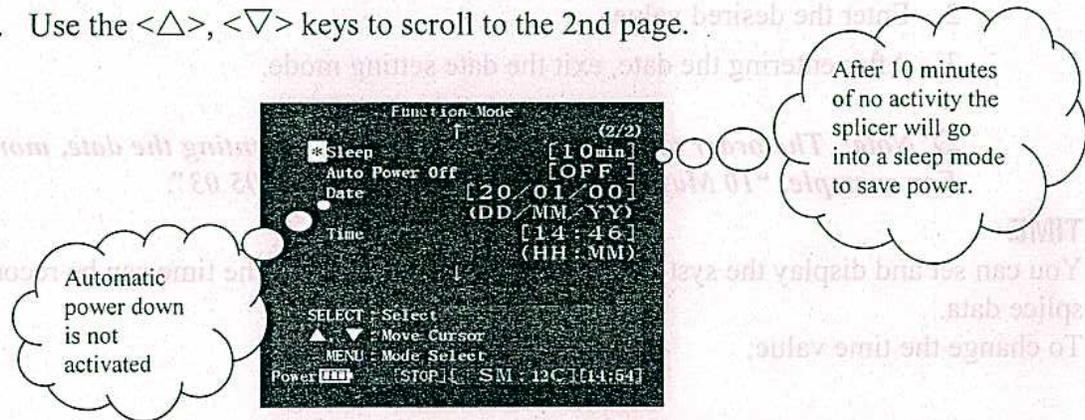

Figure 59. Power Management Features
- **SLEEP-** In Figure 59, the sleep timer is set for 10 minutes. After 10 minutes of no activity (no buttons pressed, splices being made or heater operation) the splicer will go into a sleep mode to reduce power consumption. During SLEEP mode the following will occur:
- **AUTO POWER OFF-** In Figure 59, the AUTO POWER OFF timer is not activated. The auto power off timer will begin counting down only after SLEEP mode has been activated. If SLEEP mode is not turned on AUTO POWER OFF will be activated following the programmed duration. Example:
1. Select "Date" shown in figure 59 and press <SELECT>.
1. Select "Time" as shown in figure 59 and press <SELECT>.